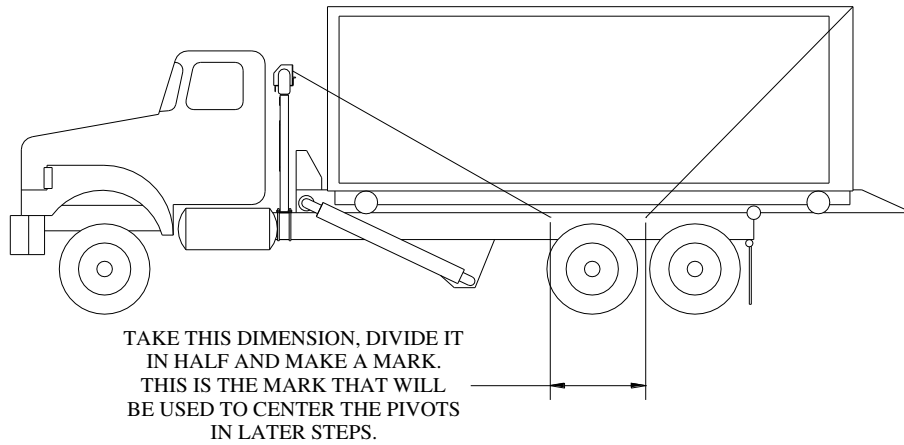

Figure 3
- 3) Measure from the first mark to the second mark, divide that measurement in half and make a mark. This is where the pivot point of the system will be. (Refer to Fig. 3)